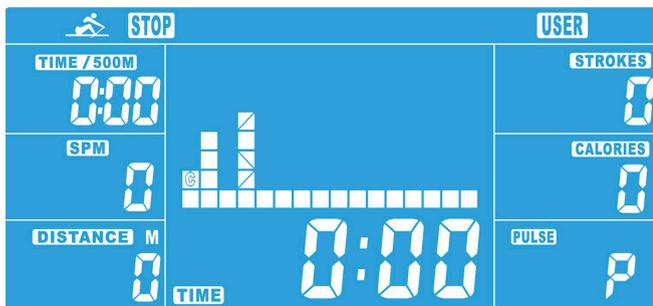

figure 15
2. Press the UP or DOWN button to set the resistance level for each section (fig. 15). Confirm every entry with the ENTER button. Press and hold the MODE button when you are done.